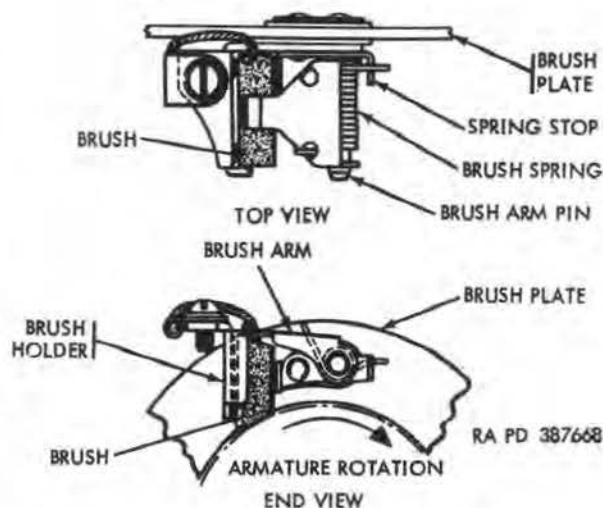

FIGURE 2. REACTION-TYPE BRUSH HOLDER.
a. General. The generator is a four-pole, two-brush unit. The generator is a heavy-duty, completely enclosed, waterproof, 24-volt, 25-ampere type which can be operated while submerged. The generator is of the shunt-field type with the field circuit internally grounded. The two brushes are retained by reaction-type brush holders (fig. 2). The field windings are connected directly across the brushes on this type of generator, and the output can increase to a point where sufficient heat will be generated to burn the generator. The output is controlled by a separately mounted generator regulator.